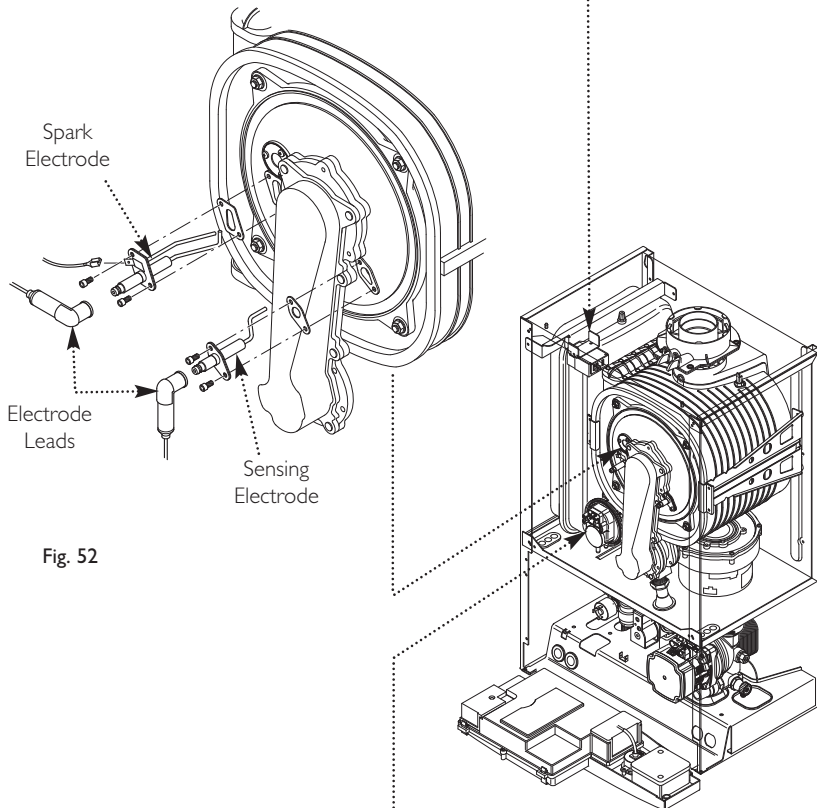

Fig. 52
13.2 Spark and Sensing Electrodes (Fig. 52)